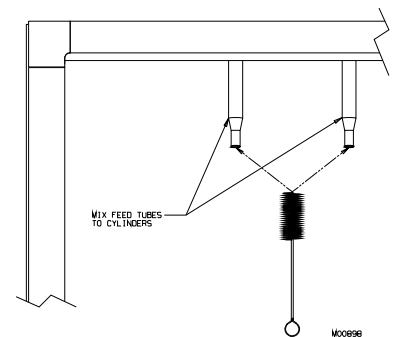
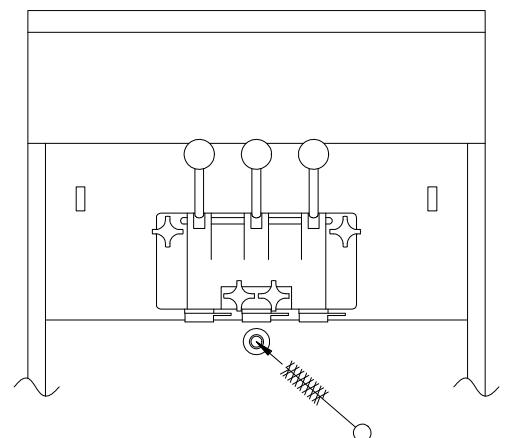

Figure 6-9 Brush inside of cylinder mix feed tubes.
Figure 6-10 Brush inside of drain tube
4. First using a warm dish detergent solution thoroughly brush; the mix feed tubes from the refrigerated cabinet to the cylinders as shown in figure 6-9, the inside of the cylinders including the back wall, and the inside of the drain tube, as shown in figure 6-10. Then brush the mix feed tubes, cylinders and drain tube with clear water following with sanitizing solution.